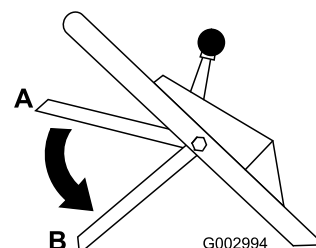

Figure 19
11. Release the blade control bar; refer to position B in Figure 19. You should hear a “bang.” The blade should stop in 3 seconds.